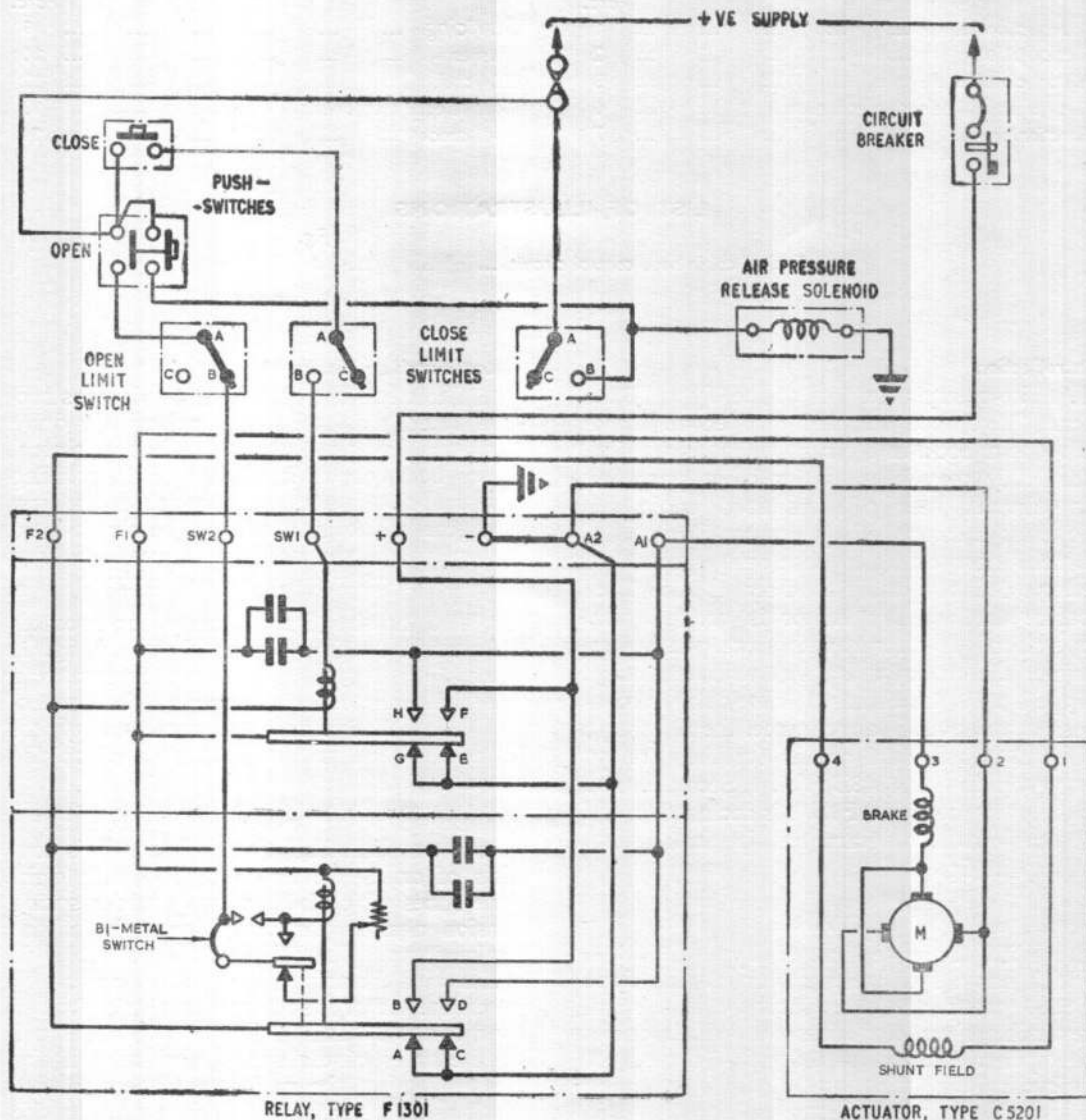

Fig. 1. Typical cabin hood control circuit
1. The rotary actuators of the Type C5200 series have been designed to open and close the cabin hood in aircraft, but it is possible that they may be used for other purposes. In aircraft with a pressurized cabin, the actuator is controlled by a relay, Type 1301, which incorporates a time-delay switch to enable deflation of the hood seal to take place before the actuator motor is brought into operation. In aircraft with a non-pressurized cabin, the actuator is used with the relay, Type F1302, which has no time-delay mechanism. In external appearance, the relays are similar. Individual details for these relays are given in A.P.4343B, Vol. 1, Sect. 22. The circuit for the Type F1301 is included in the typical circuit diagram for the installation, shown in fig. 1.
4. The brush gear assembly incorporates four brushes connected as shown in fig. 1. Access to the brushes is gained by removing the brush inspection cover, and the connections from the aircraft electrical supply are made to the terminal block situated on the motor cover.
7. The actuator is controlled by a relay, the circuit for which is shown in fig. 1. This relay incorporates two relay coils, one for clockwise rotation and the other for anti-clockwise rotation of the actuator, which are energized by operation of the appropriate push-switch. The relay shown in this circuit is the Type F1301, which incorporates a time delay to allow deflation of the hood seal to take place before the cabin hood is opened. This time delay is adjustable to cater for cable voltage drop. A similar relay, the Type F1302, may be used as an alternative to the Type F1301; this does not, however, incorporate a time